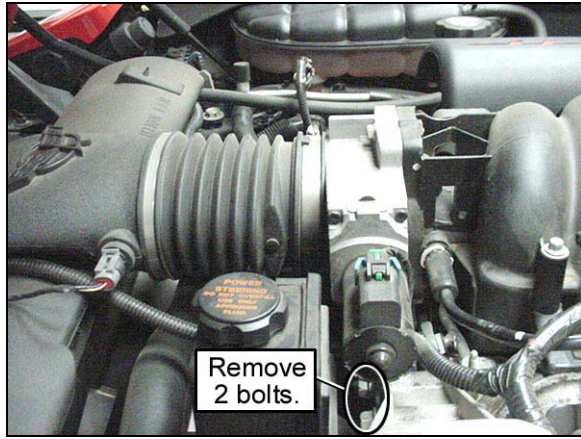

Figure 5
4. Use a 15 mm wrench to remove the power steering reservoir bracket bolts and replace with the supplied M10 x 90mm bolts. Insert the supplied spacers (Figures 5 & 6). Apply a small amount of anti-seize to the threads and tighten to 33 ft./lbs.